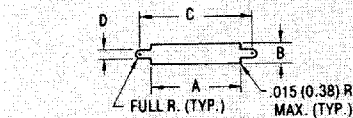
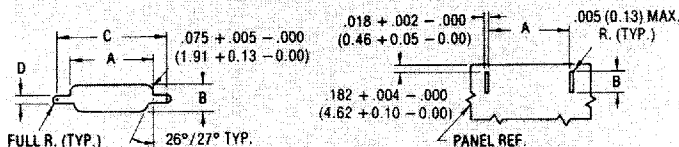

Figure 1
Figure 3
(see Figures 1 and 3)
2. Front mounting is preferred. However, when rear mounting is necessary, use figure 3 for dimensions.
5. Front mounting (Fig. 1) and rear mounting (Fig. 3) accommodate #2-56 screws when jackscrews are used. See detail on page 24 when jackposts are used.